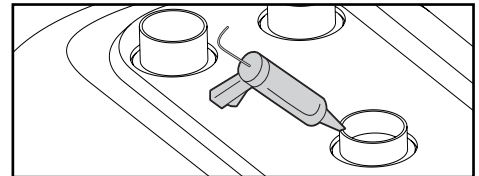

FIGURE 3. Apply construction adhesive to bathtub feet. (Above floor rough-in feet shown)
- b. Apply construction adhesive to all feet and install bathtub into alcove (Fig 3).